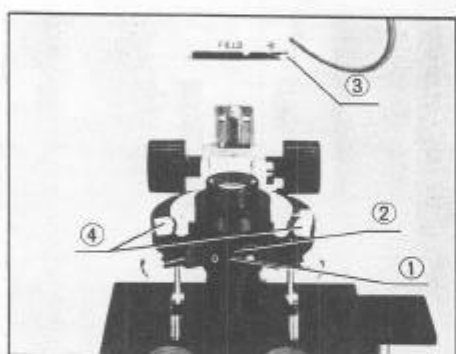

Fig. 28
- 1) Set the turret ① to the "○ ⊗" position. (Fig. 28)
- ★ It is recommended to stop down the aperture iris diaphragm ② for easier focusing on an unstained specimen. (Fig. 28)
- 3) Stop down the field iris diaphragm by means of the field iris diaphragm lever ③ and adjust the condenser height until the image of the field diaphragm can be observed sharply. (Figs. 28, 29)
- 4) Bring the image of the field diaphragm into the center of the field by means of the condenser centering knobs ④. (Figs. 28, 29) Re-open the diaphragm until the small pinhole image of the diaphragm becomes a larger polygonal area around the periphery of the field. For practical use, slightly open the diaphragm to circumscribe the field of view.